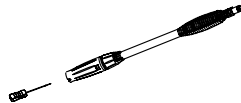

Figure 17
- Clean the high pressure nozzle using the enclosed nozzle pin **22** (see **fig. 17**).